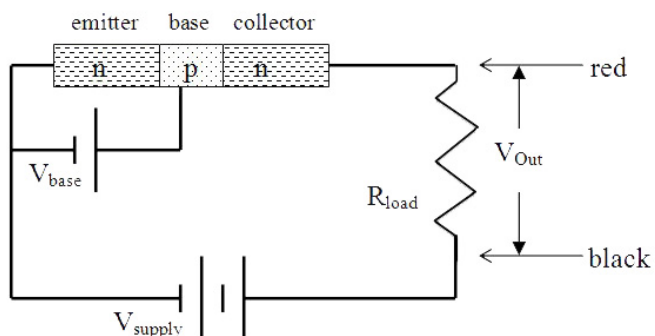
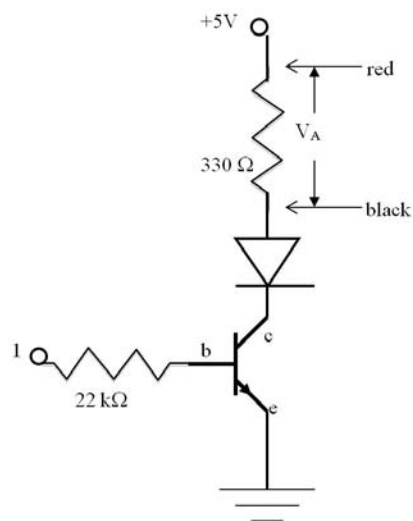

Figure 1: Transistor Theory
Figure 2: Transistor Switch Circuit
A transistor is really two diodes arranged back to back as in Figure 1 where there is an np junction between the emitter and the base and a pn junction between the base and the collector. This is called an npn transistor. One can also have a pnp configuration. Note that in Figure 2, the schematic representation of the npn transistor shows the diode character of the np junction between the emitter and base explicitly as an arrow showing allowed current flow, but does not show the arrow for the base to collector. The base to collector arrow would also point away from the base. This is done as an easy way to identify the emitter on a schematic diagram without having to show the c, b, & e on the diagram. V_{supply} is always large enough so that the base/collector junction is forward biased, so current flows readily across this junction. Not shown in Figure 1, there is always a large resistance in series with the transistor base (as in Figure 2) to prevent much current through the base. However, any current through the emitter/base junction will flow freely through the base/collector junction. When V_{base} becomes positive by more than the bias voltage (the “turn-on” voltage from the Diode Properties lab), current flows through the emitter/base junction and thus through the base/collector junction and through the load resistor.
5. Setup the circuit shown in Figures 2, 3 & 4 using the 330 Ω (orange-orange-brown- gold) resistor between the spring clips at top right, and a 22 k Ω (red-red-orange-gold) resistor at the left.